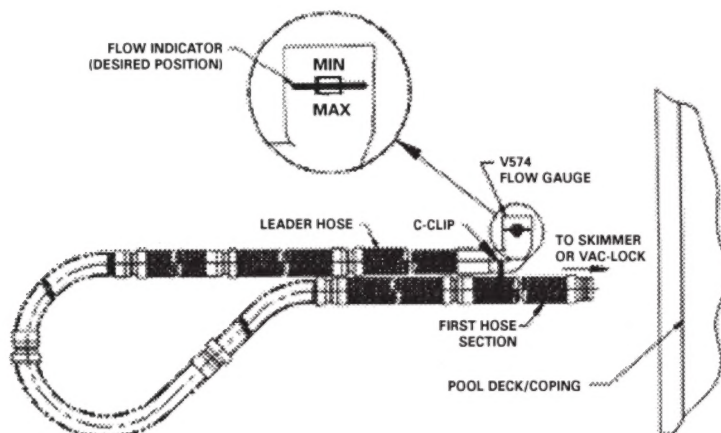
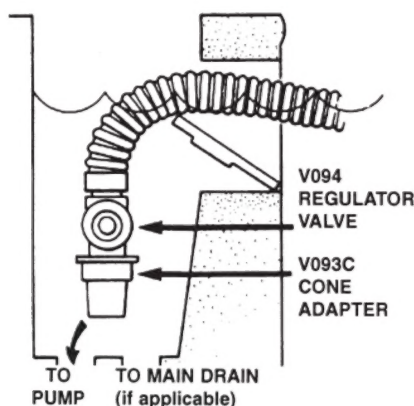

Figure 2
Figure 4
The hose should reach from the skimmer or Hayward Vac Lock® to the furthest point in the pool, **plus two (2) extra hose sections**. (The length of each hose section is four feet.) **This extra length is absolutely necessary for proper operation of the Navigator.** If the hose is not long enough, it will be necessary to purchase additional hose sections from your Hayward Navigator dealer. The hose length supplied (40 feet) has been determined to be sufficient for the majority of pools nationally. If your hose requirement is more than this, you must obtain additional hose sections for your cleaner to work properly. After the correct hose length has been assembled, fill hose completely with water. Insert Flow Gauge into the leader hose, then attach the C-Clip of the gauge onto the first hose section. Make sure the Flow Gauge is under water. (see Figure 2)
Check the water flow reading on the Flow Gauge. (Refer to Step 4, Figure 2). The black disk should be in the box between the "MIN" and "MAX" markings. If the setting is higher than required with the black disk outside of the box on the "MAX" side and you have connected your hose to the skimmer, it will be necessary to reduce the vacuum/water flow by using a valve or valves in the filter system, or the Hayward V094 Regulator Valve or an optional Hayward Automatic Skimmer Vacuum Plate designed to adjust vacuum/water flow. To install the V094 Regulator Valve, turn the filter system off. Remove the hose from the V093C Skimmer Cone, and after closing the Regulator Valve (Rotate the blue collar clockwise/toward + until closed/tight), insert the Regulator Valve into the Skimmer Cone, and insert the hose end into the Regulator Valve (see Figure 4).
If you have connected your hose to the Hayward Vac Lock, it will be necessary to adjust the vacuum/ water flow using the 3-way valve at the filter system. The handle on the valve should be turned so that the Flow Gauge which is installed in the Navigator hose reads properly (refer to Figure 2). After the 3-way valve has been properly adjusted, **the vacuum gauge at the 3-way valve should be marked so that the water flow can be adjusted by referring to the gauge at the valve**, rather than reinstalling the Flow Gauge in the hose each time an adjustment is necessary.
Some skimmers have two (2) holes in the bottom. There might be a valve, float or cover over the holes. Remove everything in the skimmer, exposing the holes. The rear hole is usually the suction port. In some cases it will be necessary to use the V094 Regulator Valve to control water flow through the Navigator (*see Figure 4*).